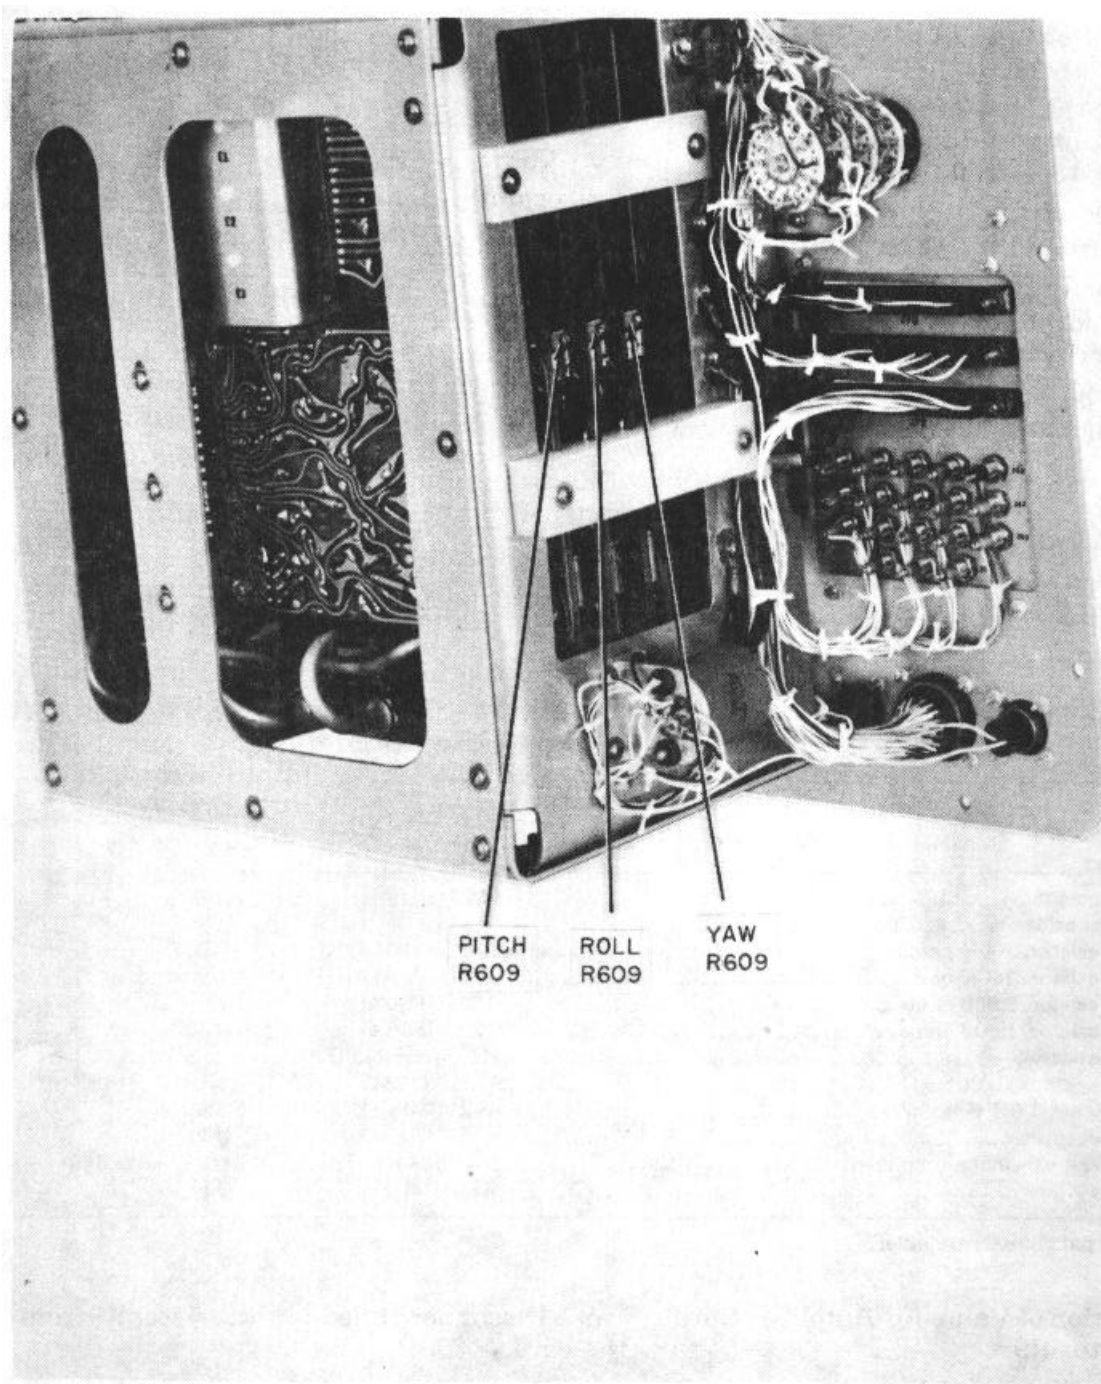

Figure 6-7. Balance resistors location.
g. Adjust balance resistor R609 (fig. 6-7) for a minimum indication on the vtvm.